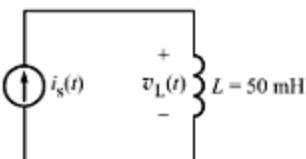

Fig. E-13
- E-6. A 50-mH inductor is connected to a current source of $i_s(t) = 0$, for $t < 0$, and of $i_s(t) = 150 t^3$ A, for $t > 0$. Calculate the voltage across the inductor, $v_L(t)$, with the polarity shown in Fig. E-13.